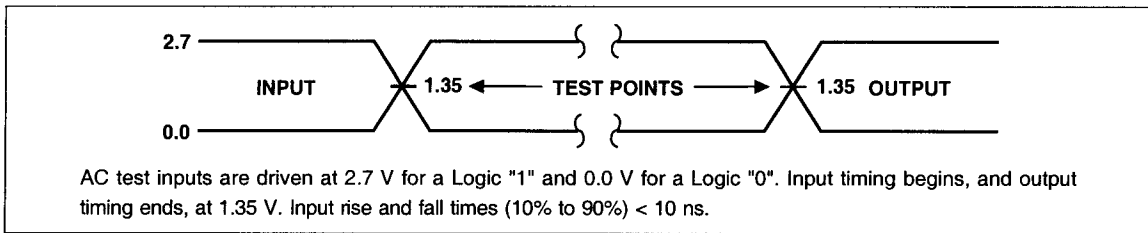

Fig. 9 Transient Input/Output Reference Waveform for $V_{CC} = 2.7 \text{ to } 3.6 \text{ V}$
1. See AC Input/Output Reference Waveform (Fig. 9 through Fig. 11) for maximum allowable input slew rate.